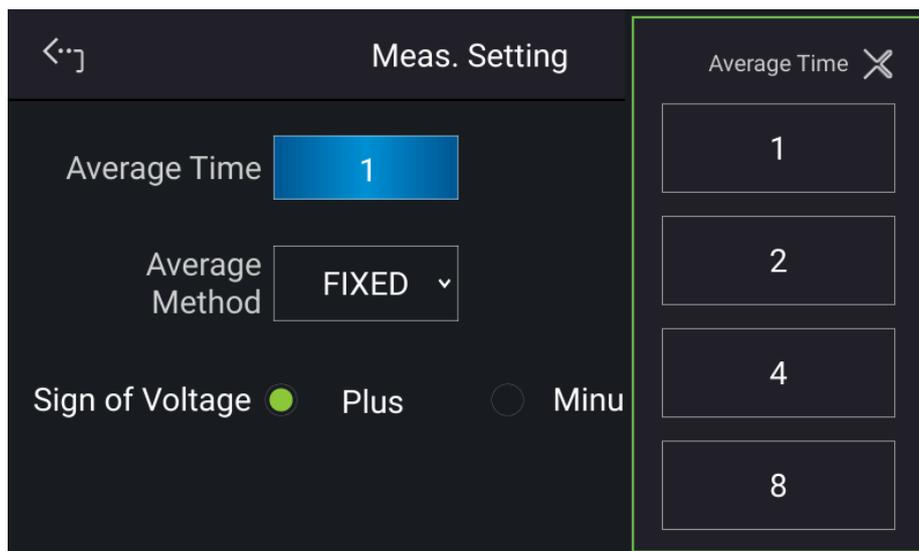

Figure 3-22
2. The way to change the reading average times is shown in Figure 3-22.